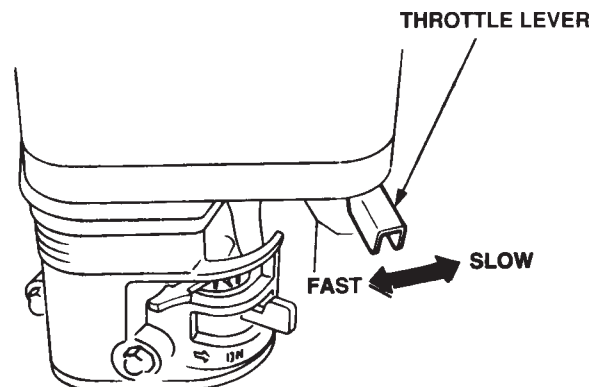

Figure 20. Throttle Lever
6. Place the **throttle lever** (Figure 20) halfway between **fast** and **slow** for starting. All sawing is done at full throttle. The engine governor speed is factory set to ensure optimum blade operating speeds.
- Place the throttle lever (Figure 20) in the slow position, and listen for the engine speed to decrease.
2. Move the engine throttle lever to the idle (SLOW) position (Figure 20).